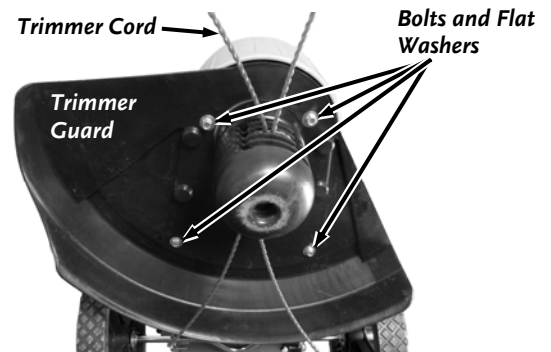

Figure 25
3. Remove the four Trimmer Guard Bolts and Flat Washers with a 3/8" Wrench. Remove the Trimmer Guard (**Figure 25**).
11. Position the Trimmer Guard and secure with the four Bolts and Flat Washers using the 3/8" Wrench (**Figure 25**).